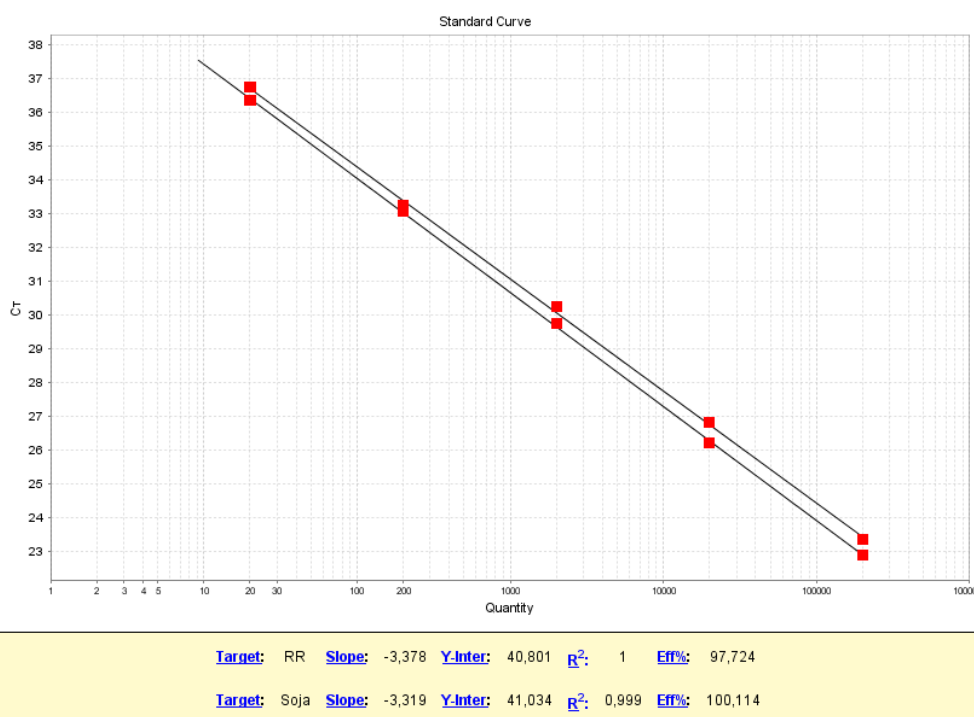

Figure 2: Standard curves for total Maize and TNOS targets. Red dots represent the dilutions of the standard.
05. Vortex and spin the 1.5 mL tubes and dispense 20 µL per well or tube of 0.2 ml (see the example for three samples in figure 2).